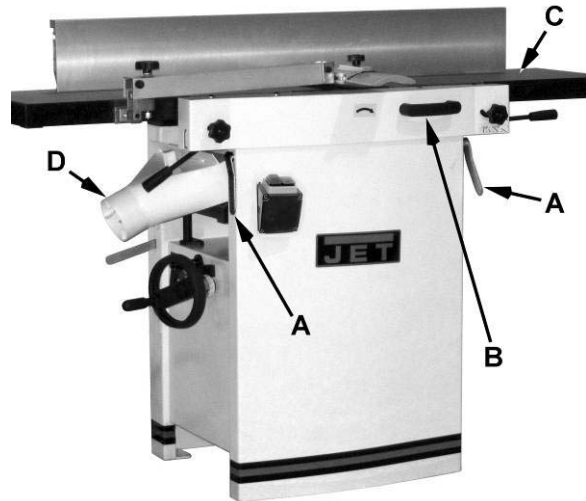

Figure 2
38. Move the hands in an alternate motion from back to front as the work continues through the cut. Never pass the hands directly over the cutter knife. As one hand approaches the knives remove it from the stock in an arc motion and place it back on the stock in a position beyond the cutter knife (Fig. 2).
To change the machine configuration jointer to planer (refer to Figure 2):
1. Pull the *release knob* (F) and reposition the *dust chute* (D, G) to the left. It should be positioned as shown in D, Fig. 2.
2. Release the *latch* (E) and bring the table forward using the *tilt handle* (B). It should be positioned as shown in C, Fig. 2.
3. Lock the *table* (C) by pushing the *lock handles* (A) in toward the machine and rotating down (away from the operator).